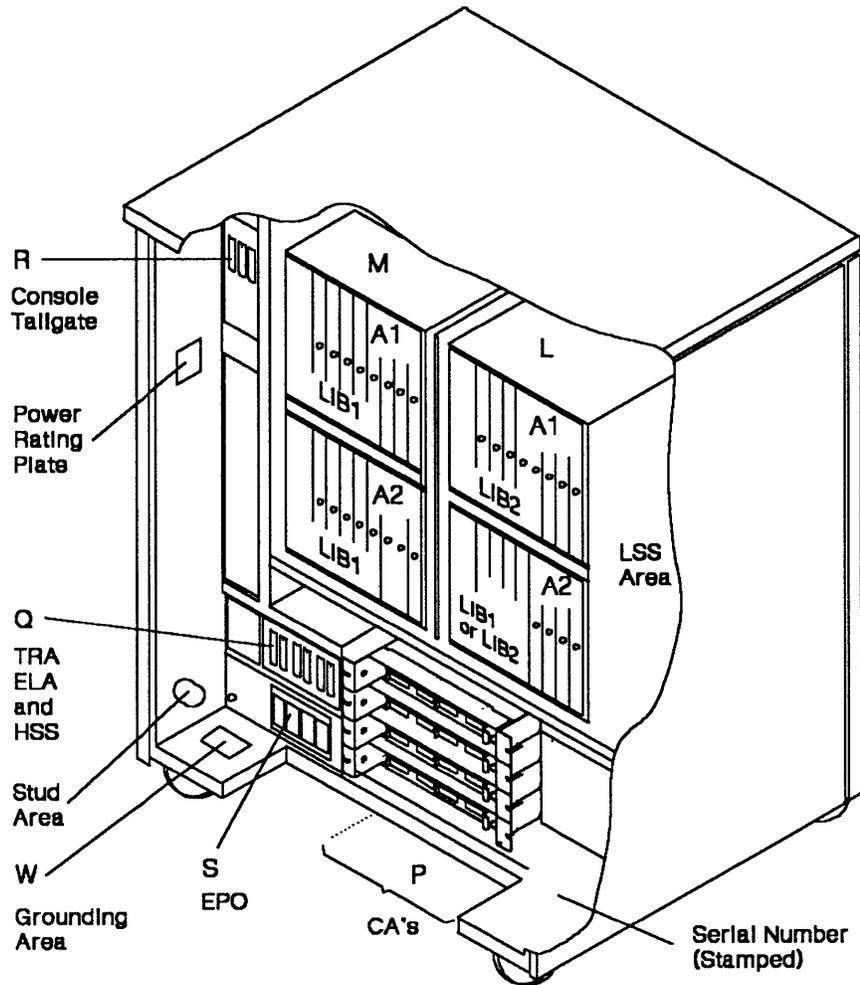

Figure 1-3. 3745 Component Locations (Rear - Model 170)
- Step 3. ___ At the rear of the machine, locate the power rating plate on the left side (see Figure 1-3 on page 1-6). **Check that the 3745 ac power rating plate data is consistent with the customer's available voltage, current and frequency.** If there is a mismatch, stop the installation, check with the customer, and notify the IBM sales representative.
At the rear of the machine, check the serial number stamped on the frame at the bottom right of the machine (see Figure 1-3 on page 1-6).